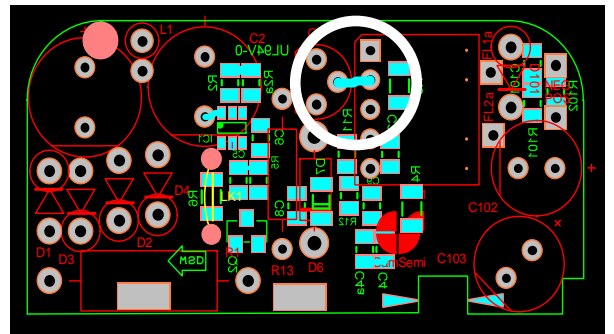

Figure 4: Q1 Collector Path
The Q1 collector switches high voltage on and off through the transformer primary winding at a speed of about 50 kHz. This is an EMI source due to the fast edges - with frequencies in the order of 10s of MHz - and fast transients. This connection needs to be routed with the minimum copper area possible to reduce radiated EMI. Figure 4 shows the track highlighted.
- Q1 Collector Path - Figure 4